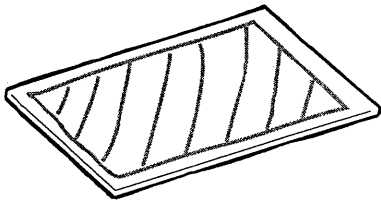

Figure 6
20. **Apply panel adhesive** in a solid bead all around the perimeter, about one inch from the edges. Be sure the bottom edge of your adhesive is higher than the vapor gap cutout on your wall. Then apply the adhesive in diagonal lines across the center of the sheet. See figure 6. Don't scribble or draw pictures! They could show through!